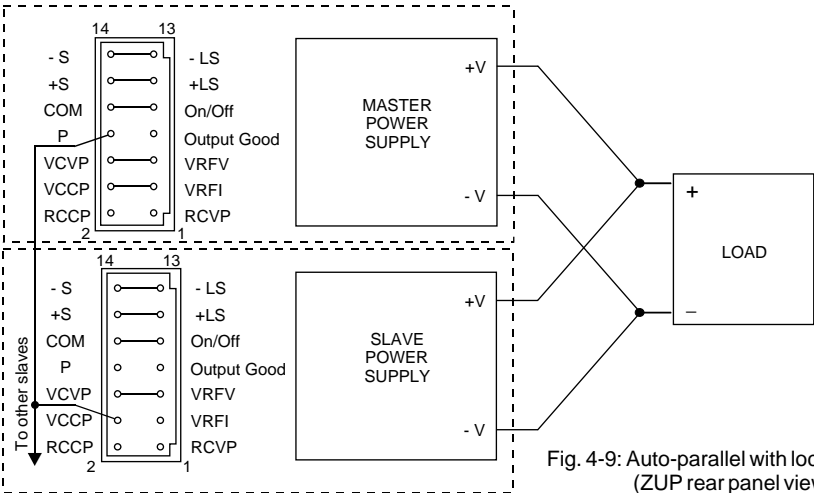

Fig. 4-9: Auto-parallel with local sensing (ZUP rear panel view)
6. **Connection to the Load:** At auto-parallel mode, power supplies can be connected in local or remote sensing. Refer Fig. 4-9, 4-10 & 4-11 for typical connections of paralleled power supplies. The figure below shows connection of two units, however the same connection method applies for up to 5 units.